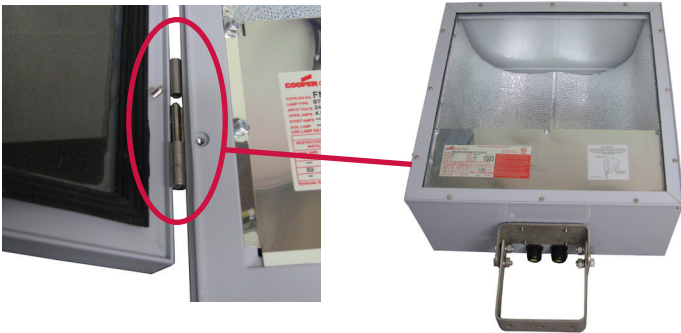

Figure 4 - Swing Open Cover with Lift-Off Door
3. Completely loosen the twelve (12) captive cover screws and swing open the cover. See Figure 4.